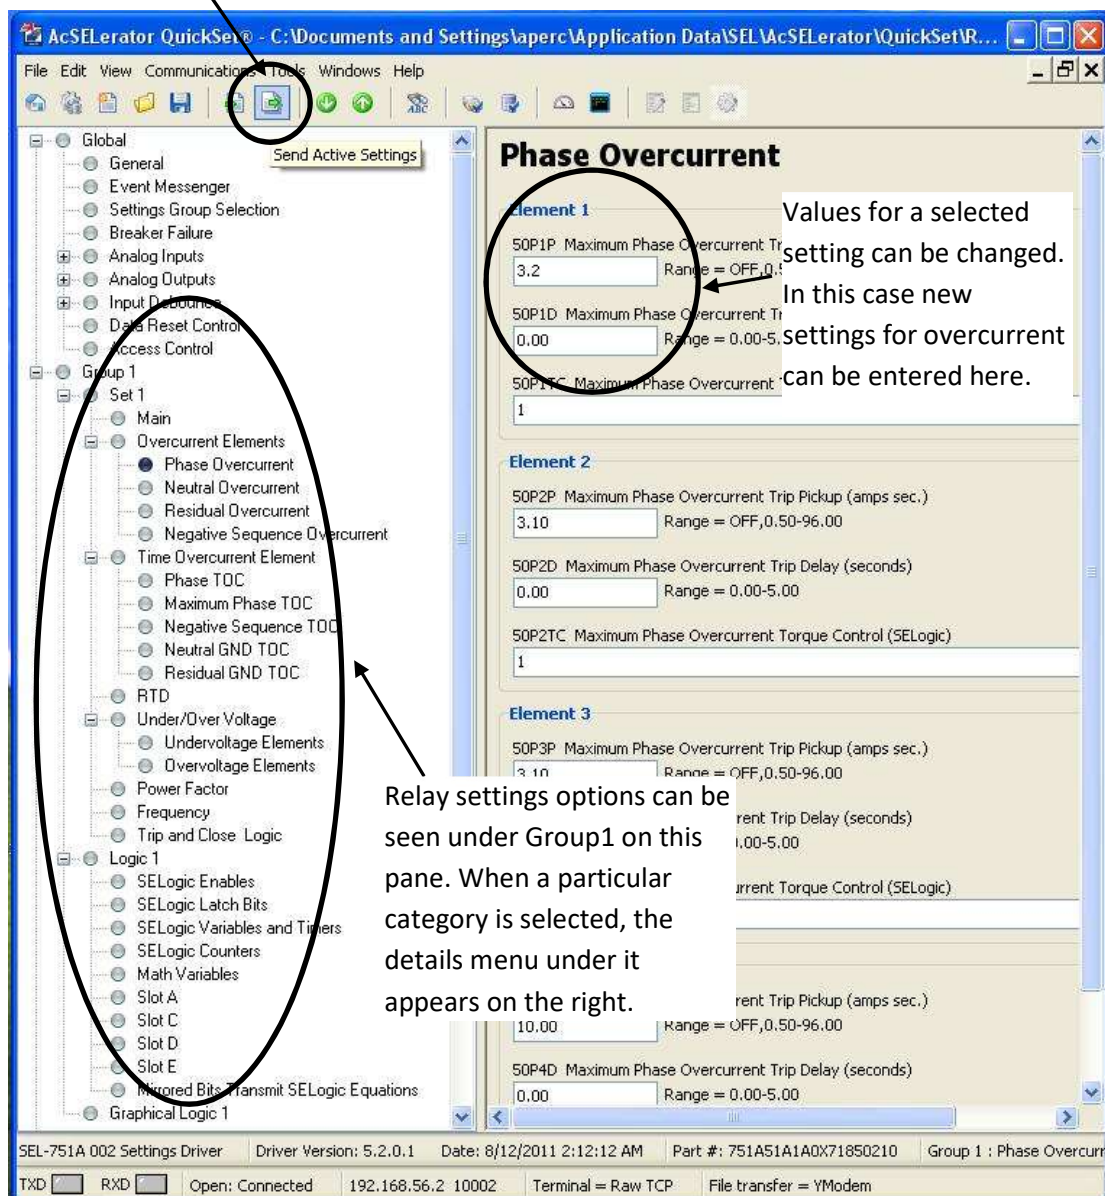

Figure 4.37 Detailed device settings. Settings can be read, modified and sent to device.
- 4) When the reading process is complete, user can access the settings of the device. Clicking on a particular setting will open details for each setting option. New values can be entered as shown in Figure 4.37. Relay protection settings are under Group1 → Set1. Logic settings are under Group 1. Once new settings have been entered, the new values can be sent to the relay by clicking on the “Send Active Settings” option on the main menu.